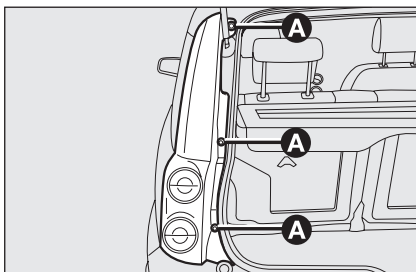

fig. 22
- loosen the three screws **A-fig. 22** then pull gently the headlight outwards until releasing it from the three catches;